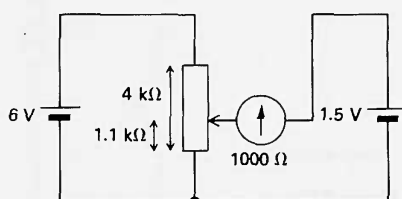

Figure B74
- 27(L)** The circuit (figure B74) shows a  $4 \text{ k}\Omega$  potentiometer which is nearly balanced with a  $1.5 \text{ V}$  cell. You are asked to apply Kirchhoff's circuit laws to find the current through the galvanometer. Both cells have negligible internal resistance. Draw a large copy of the circuit.